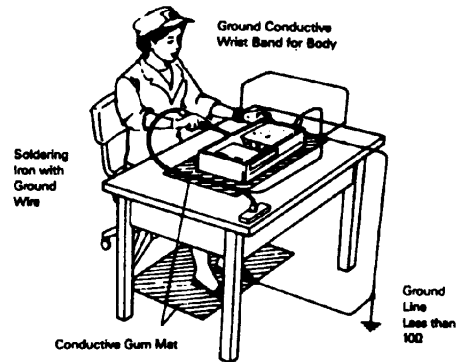

Figure 3.
1. Remove the CD mechanism assembly by referring to Disassembly Instructions.(See Figure 3.)